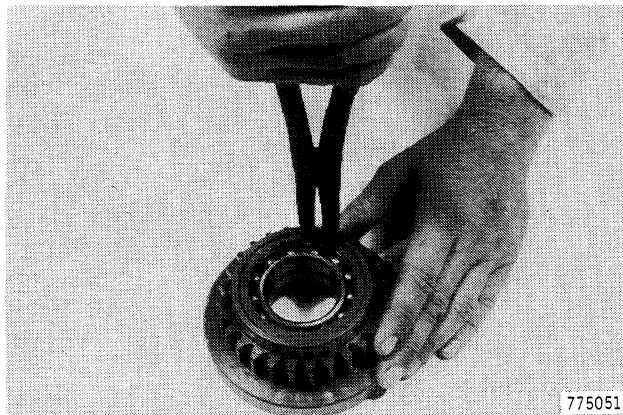

Figure 53
25. To remove bearings from reverse gear, remove snap ring, Figure 53.